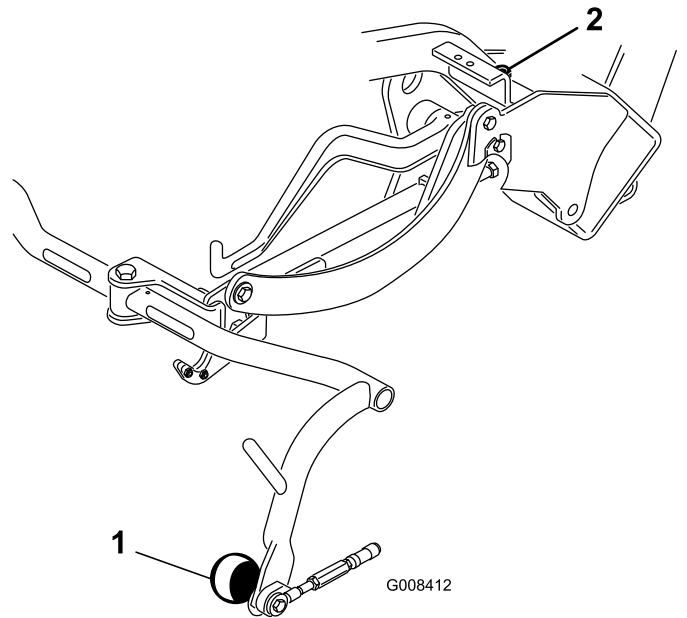

Figure 9
3. If you must adjust the clearance, loosen the jam nut on the carrier frame stop screw (Figure 9) and rotate the screw up or down to raise or lower the carrier frame. Tighten the jam nut to secure the adjustment.